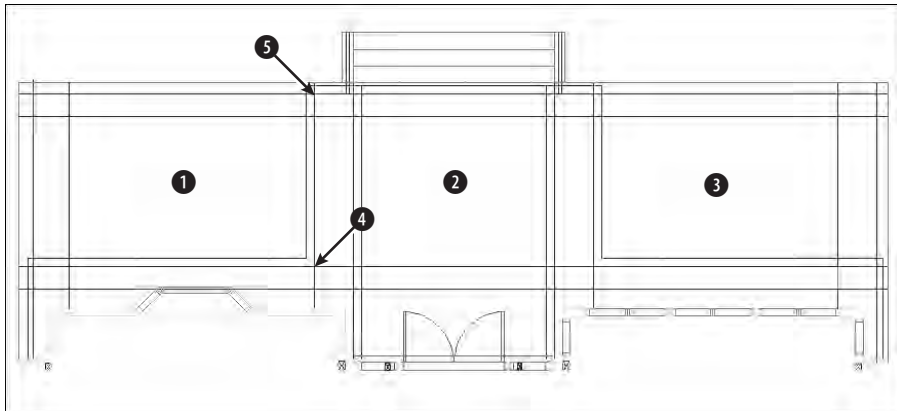
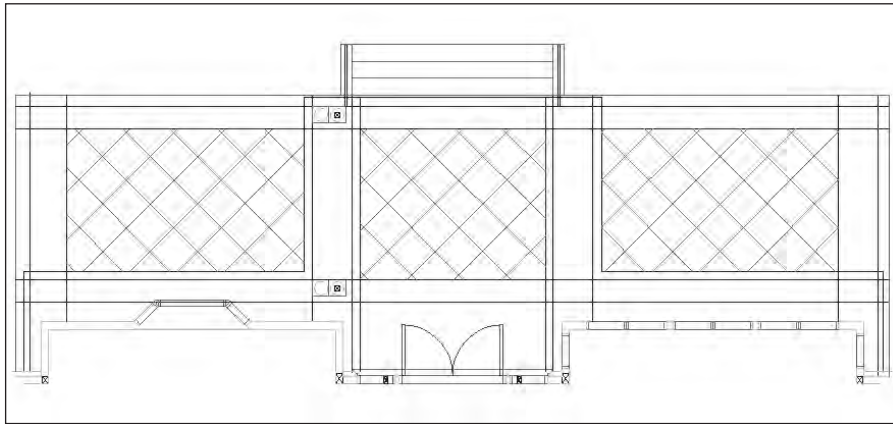

Figure 26-10: This back porch needs some columns, which are blocks, as well as some hatching.
Figure 26-11: The drawing now has hatches and blocks inserted from the tool palette.
2. Save the file as `ab26-02.dwg` in your *AutoCAD Bible* folder. This drawing needs some blocks and a hatch pattern inserted. It is shown in Figure 26-10.
11. Drag the **User Defined** hatch icon to ❶ in Figure 26-10. Then do the same for ❷ and ❸. These areas are hatched, as shown in Figure 26-11.
13. Click the **post** icon. At the **Specify insertion point:** prompt, pick ❹ in Figure 26-10. Click the **post-structural** icon. At the prompt, pick the upper-right corner of the post block, as shown in Figure 26-11.
14. Click the **post** icon. At the prompt, pick ❺ in Figure 26-10. Use the same technique to place the **post-structural** icon at the upper-right corner of the post block. (The posts would then need to be spaced and mirrored to the other side of the porch, but these tasks are not necessary for this exercise.)
17. Save your drawing. It should look like Figure 26-11.